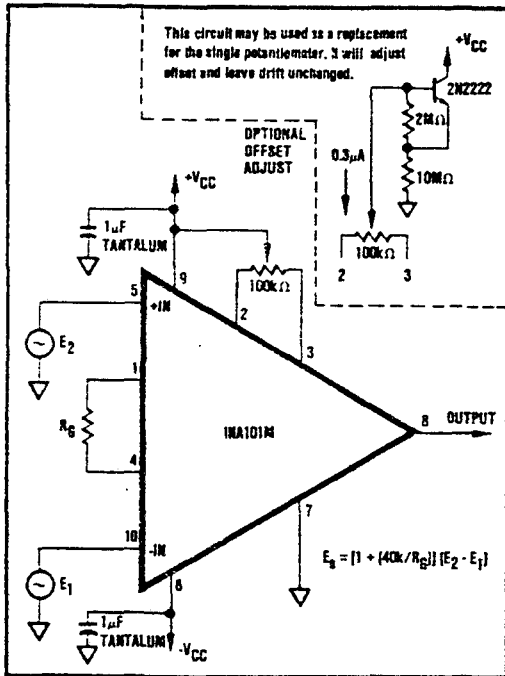
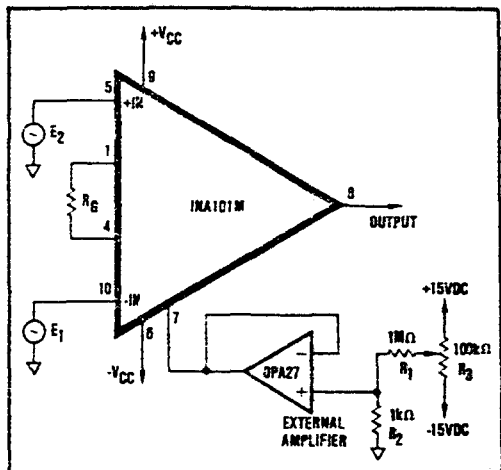

FIGURE 2. Basic Circuit Connection for the INA101 Including Optional Input Offset Null Potentiometer.
FIGURE 3. Optional Output Offset Nulling or Offsetting Using External Amplifier (Low Impedance to Pin 7).
At +25°C and in circuit of Figure 2 unless otherwise noted.
Figure 2 shows the simplest configuration of the INA101. The gain is set by the external resistor,  $R_G$  with a gain equation of  $G = 1 + (40K/R_G)$ . The reference and TCR of  $R_G$  contribute directly to the gain accuracy and drift.
The optional offset null capability is shown in Figure 2. The adjustment affects only the input stage component of the offset voltage. Thus, the null condition will be disturbed when the gain is changed. Also, the input drift will be affected by approximately  $0.31 \mu\text{V}/^\circ\text{C}$  per  $100 \mu\text{V}$  of input offset voltage that is trimmed. Therefore, care should be taken when considering use of the control for removal of other sources of offset. Output offsetting can be accomplished in Figure 3 by applying a voltage to Common (pin 7) through a buffer amplifier. This limits the resistance in series with pin 7 to minimize CMR error. Resistance above  $0.1 \Omega$  will cause the common-mode rejection to fall below  $106 \text{dB}$ . Be certain to keep this resistance low.
The basic circuit connection for the INA101 is shown in Figure 2. The output voltage is a function of the differential input voltage times the gain.
It is frequently desirable to null the input component of offset (Figure 2) and occasionally that of the output (Figure 3). The quality of the potentiometer will affect the results, therefore, choose one with good temperature and mechanical-resistance stability. The procedure is as follows:
3. Adjust to  $100\text{k}\Omega$  potentiometer in Figure 2 until the output reads  $0\text{V} \pm 1\text{mV}$  or desired setting. Note that the offset will change when the gain is changed. If the output component of offset is to be removed or if it is desired to establish an intentional offset, adjust the  $100\text{k}\Omega$  potentiometer in Figure 3 until the output reads  $0\text{V} \pm 1\text{mV}$  or desired setting. Note that the offset will not change with gain, but be sure to use a stable external amplifier with good DC characteristics. The range of adjustment is  $\pm 15\text{mV}$  as shown. For larger ranges change the ratio of  $R_1$  to  $R_2$ .